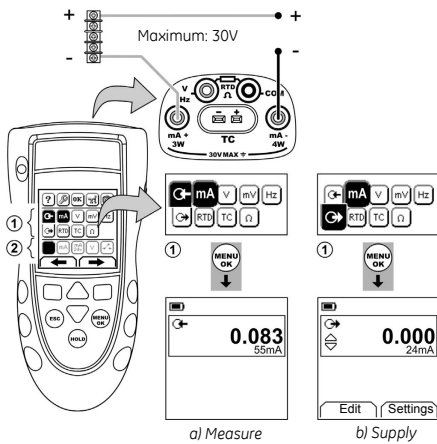

Figure 1: Example configuration - To measure/supply mA with external loop power (Area 1)
1. Connect the instrument (Figure 1, 2 or 3) and, if necessary, adjust the Set Up (Table 1).